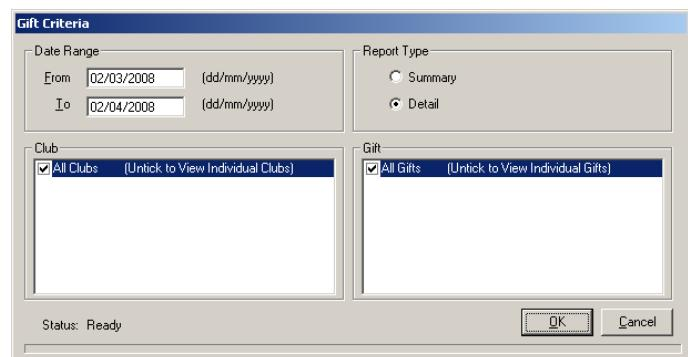

Figure 414
2. You will be prompted to enter the date range and select the club/s you wish to report on (see Figure 414).